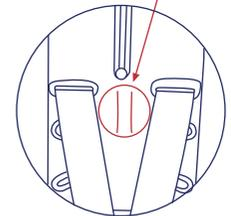
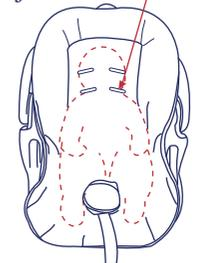

Fig. 31-1
Fig. 31-2
- 12.1.4) Remove the Safety Seat from the Base and rotate the Carry Handle to the non rocking position. Place your child in the Safety Seat such that your child's bottom is all the way to the rear and bottom of the seat. (See Fig. 32-1) Rotate the knob behind the seat back to raise or lower the moving seat back and harness straps. Knob must remain in vertical position after adjustment. (Fig. 31-1) The Harness Straps must be even with or just below the child's shoulders. (Fig. 31-2) **DO NOT** use the Safety Seat with the Harness adjusted above the child's shoulders as the child will not be held securely in a sharp turn, sudden stop, or crash.
The fixed seat back version of the Safety Seat features three height adjustments for the harness shoulder straps. **The harness straps must be used in the slots that position the straps to be even with or just below your child's shoulders.** (See Fig. 31-1) The harness straps are adjusted as follows: